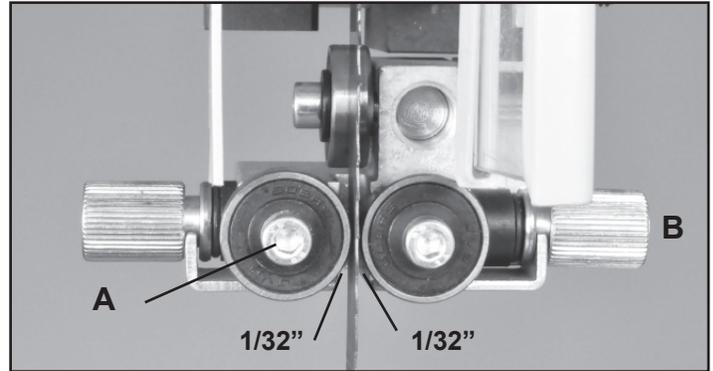
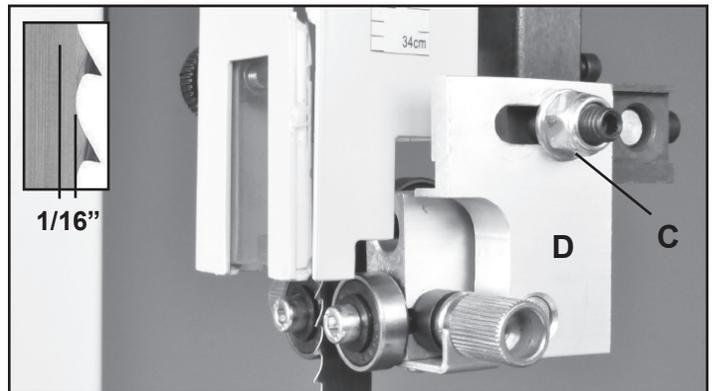
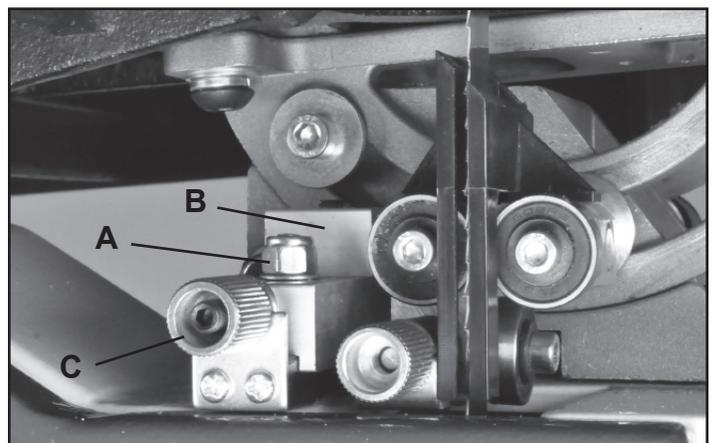

FIGURE 22
FIGURE 23
FIGURE 25
1. Position the right and left guides relatively close to the blade. First, loosen their front locking Hex Cap Screws (#5G, Fig 22, A) with the 4mm hex wrench. To move the guides towards or away from the blade, turn the knurled, micro-adjusting Knobs (#6G, B).
2. The front of the guides should be approximately $1/16''$ behind the gullets of the saw blade (Fig. 23 inset). If they need to be moved forward or backwards, loosen the Lock Nut (#23D, Fig. 23, C) and move the upper guide's Support Block (#15G, D) until the guides are properly positioned behind the blade gullets. Re-tighten the lock nut when done. Fig. 23. Lock the guides in place. Fig. 22.
3. Set both side bearing guides to within $1/32''$ of the saw blade - about the same thickness of a business card (Fig. 22). Do not set the bearing guides too close, or touching the sides of the blade, as this will adversely affect the life of the blade and bearings.
1. First, loosen the lower support Lock Nut (#1H, Fig. 25, A). Then move the blade Guide Block (#19H, B) with the micro-adjusting Knob (#5H, C) until both side bearing guides are approximately $1/16''$ behind the gullets of the bandsaw blade. Fig. 23, inset. When set, tighten the lock nut (A). Fig. 25.